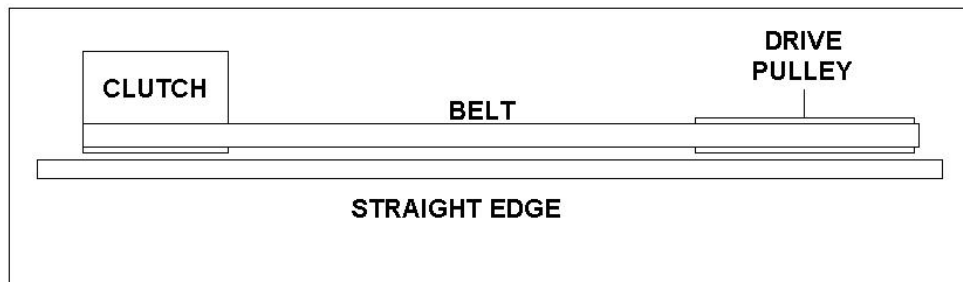

Figure 2
- Check alignment of the clutch (#1, pg 29) with the drive pulley (#4, pg 29) by placing a straightedge across both faces as shown in figure 2. If adjustment is necessary, correct alignment by moving drive pulley in or out on the rotor shaft. **Do not make adjustment by moving the clutch on the engine shaft.**